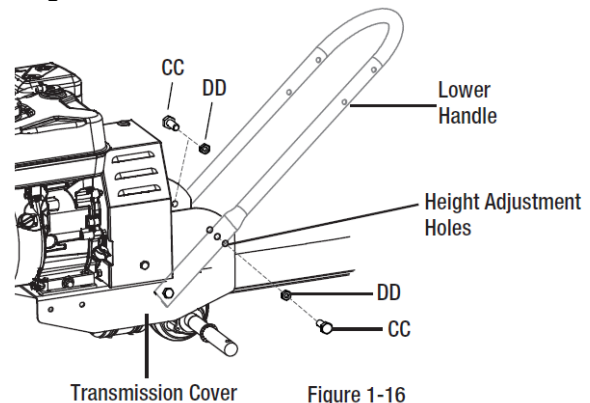

Figure 1-16
- Unscrew nuts (DD) and remove top and bottom bolts (CC) on each side of the lower handle.
- Install bolts (CC) and nuts (DD). Retighten. See Figure 1-16